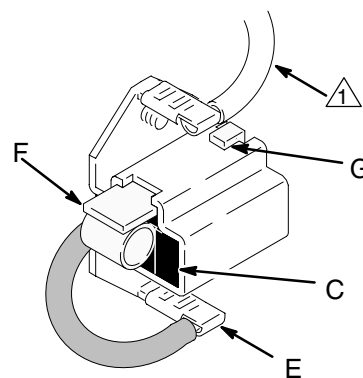

Fig. 7 03881
7. Holding spring clip (F) at a slight angle, slide spring clip into brush holder and hook it over end of holder. See Fig. 7. Pull on spring clip to be sure it stays in place. Connect brush lead to blade connector (E).
- a. Remove pump connecting rod pin (14).